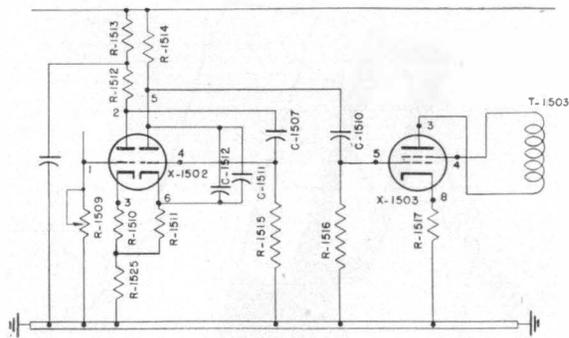

FIGURE 1.—Schematic diagram for Field Change No. 1.
- (a) Remove C-1511 and C-1512 from ground and reconnect in parallel to pin No. 6 of V-1502 as in Figure 1.